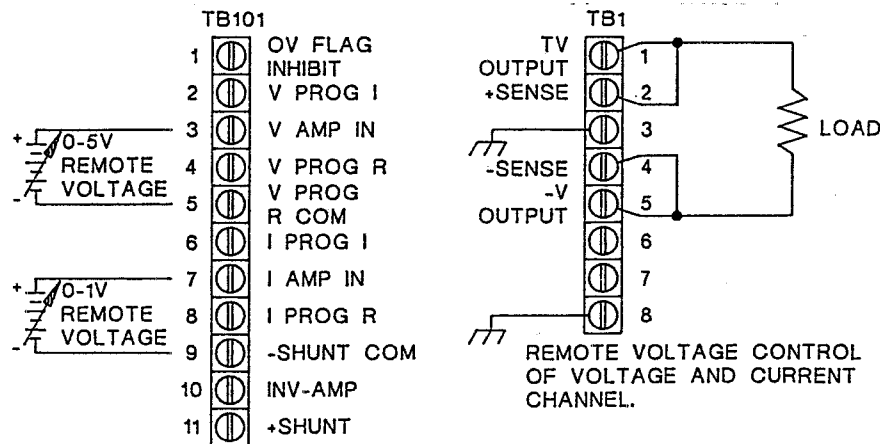

FIG. 4
2.4.3.2 REMOTE PROGRAMMING, EXTERNAL VOLTAGE (Fig. 4)